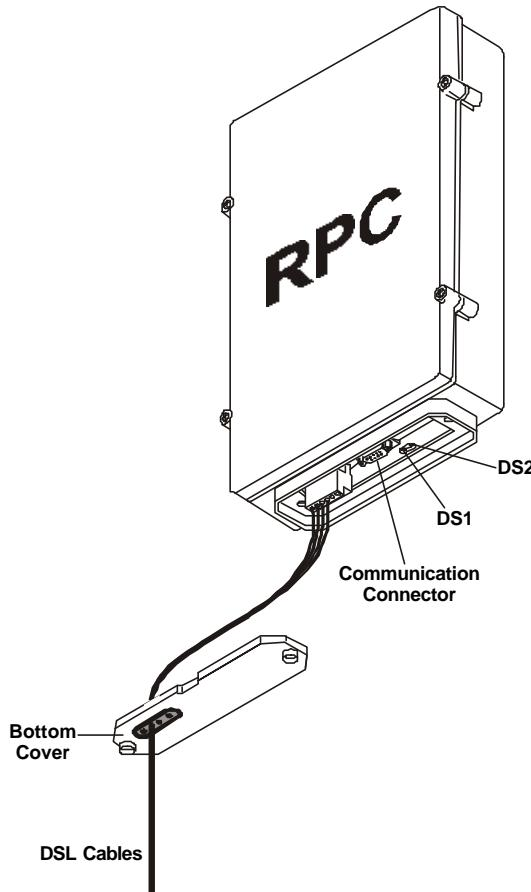
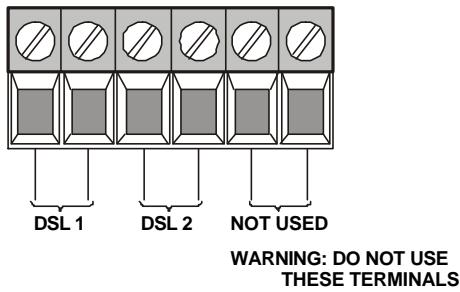

Figure 4-14. Connection of DSL Lines to the RPC
Figure 4-15. Connections to DSL Line Connector
- Four. Refer to Figures 4-14 and Figure 4-15 and perform the following steps:
- (1) Unscrew the two screws that fasten the bottom cover of the RPC case.
- (2) Insert the DSL cable through the grommet in the RPC cover and connect the DSL lines to the DSL-1 and DSL-2 terminals on the DSL line connector as shown in Figures 4-14 and 4-15. Make sure that each DSL wire pair is separately connected.